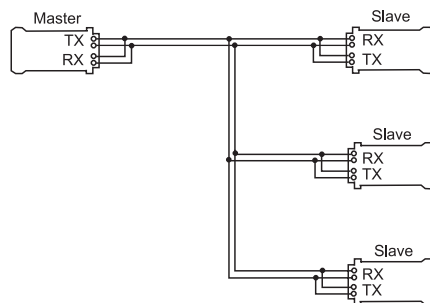

Figure 4. Multidrop Mode – 2-wire
- 16b. Connect the line terminal as shown in *Figure 4*.